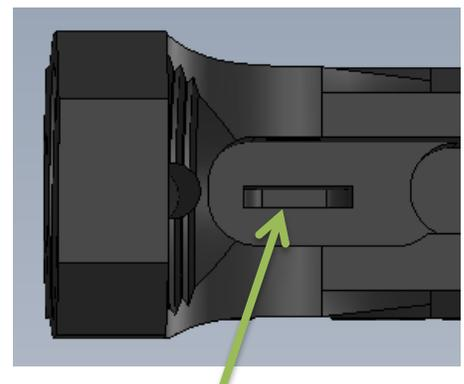

Figure 7 (ABS Pitting in this area can be ignored)
4. In the rear of the fire control pocket (Figure 7), there's an area where you might see some "pitting". This pitting is not the lower receiver Polycarbonate structure. There are remnants of the ABS Core which goes much deeper here. Don't remove this, there's no impact to performance. Just clear out the backside enough for the rear take down pin to clear and be careful to not come too close to the right side wall where the detent pin comes through.